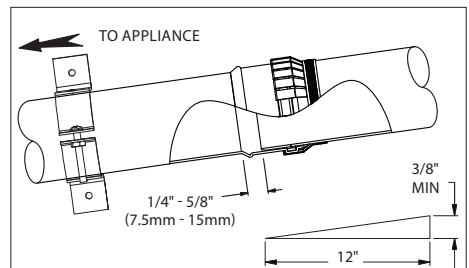

Figure 7
Refer to the appliance manufacturer's installation instructions for requirements of condensate drainage. Ensure proper system slope for drainage. (Fig.7 and 20) When using a P-Trap style drain, connect 1-1/4in (32mm) tubing and secure into a loop. Fill the loop partially with water to prevent exhaust leakage. Route the free end of the loop to an appropriate disposal.
3. **The slope of the vent pipe must be at least 1.8° (3/8" rise per ft run, 31mm per meter) back to the appliance.** Ensure there are no dips in the system where condensate can collect. (Fig.7)
PP Pipe sections must be disengaged 1/4"-5/8" per joint (to allow for expansion) and sloped 1.8°(3/8" per ft) back to the appliance per Fig.7 for proper condensate flow.